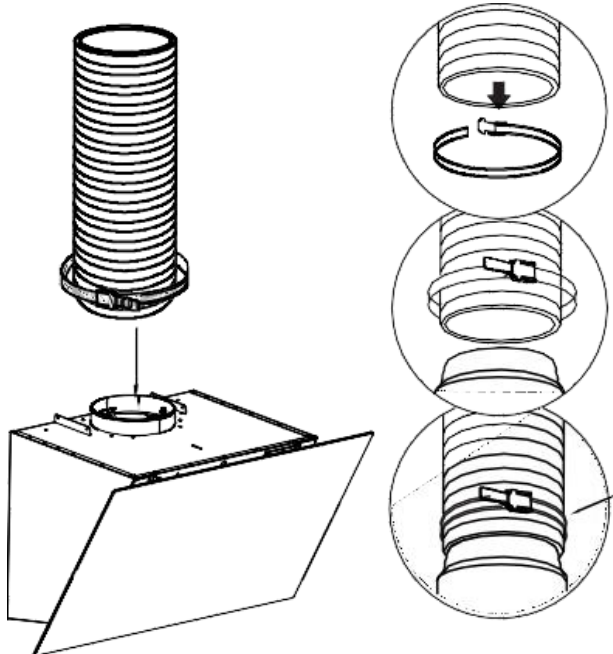

Fig. 11
10. Install the Aluminum Exhaust Pipe into the air outlet and lock it with a Cable Tie; the other end of the Aluminum Exhaust Pipe will be pulled upward to outdoor (Note: This step can be ignored if use as recirculation mode with carbon filter). (see Fig. 11)